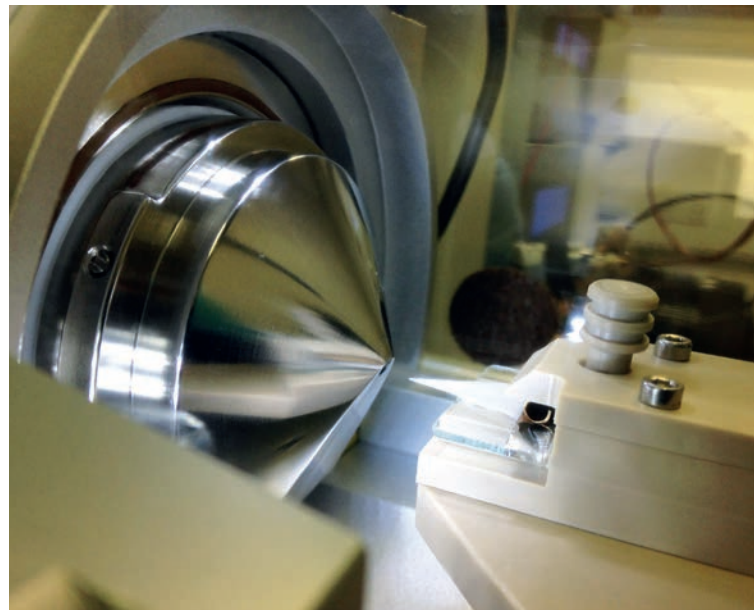

Figure 1. The mass spectrometer used to process the fingerprint sample on chromatography paper (white triangle).
The fingerprint sample is collected on a piece of chromatography paper, then a solvent is added and a voltage applied (see Figure 1). This process extracts traces of cocaine and substances produced when cocaine is metabolized (benzoylecgonine and methylecgonine). Analysis of 239 fingerprints from patients at a drug rehabilitation center and a control group of people not known to be drug users yielded a 99 percent true positive rate, and a false positive rate of 2.5 percent – even when study participants had washed their hands with soap before having their prints taken (1). And since the ridges of the fingerprint are visually established as part of the procedure, the identity of the donor can be identified.